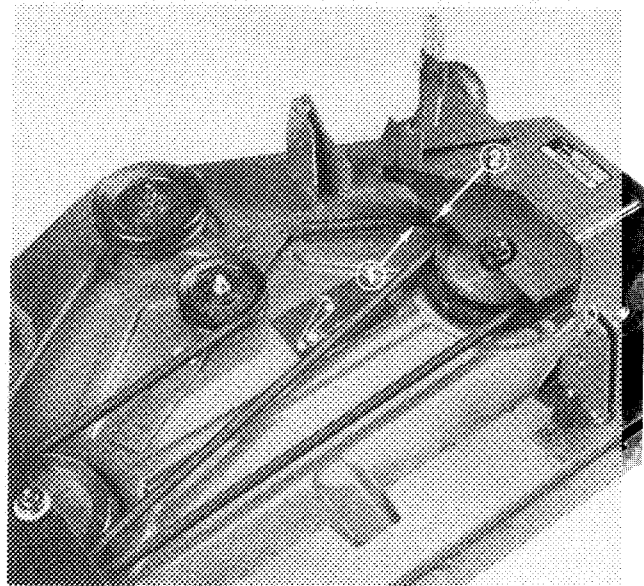

Figure 18
- 2. Remove nut securing spring anchor to capscrew in housing (Fig. 18). Lift anchor off capscrew and pull to increase belt tension. Correct belt tension is achieved when approximately 30-40 lbs. of force is applied to spring.
3. Remove nut securing spring anchor to capscrew in housing (Fig. 18). Lift anchor off capscrew and allow belt to relax.